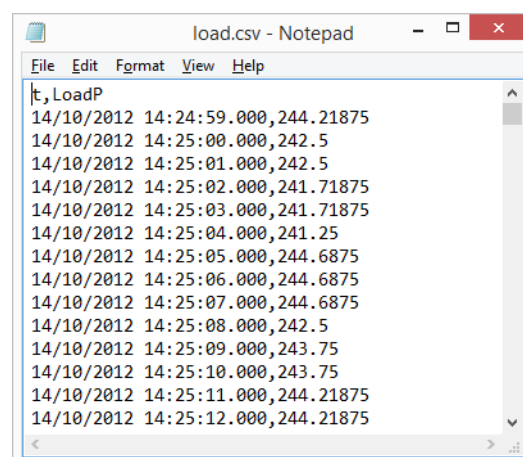

Figure 5 Input file with date-time
1. If the input file uses date-time values, then values before the start time will be ignored. (See Figure 5 Input file with date-time)